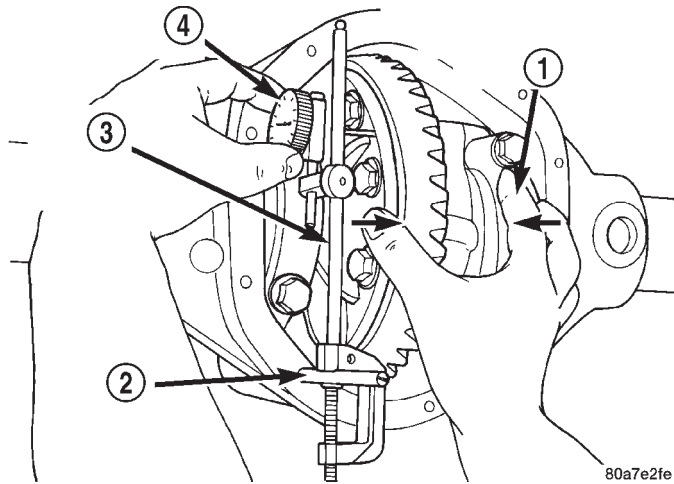

Fig. 99 Hold Differential Case and Zero Dial Indicator
(10) Push and hold differential case to pinion gear side of axle housing (Fig. 99).
(11) Zero dial indicator face to pointer (Fig. 99).